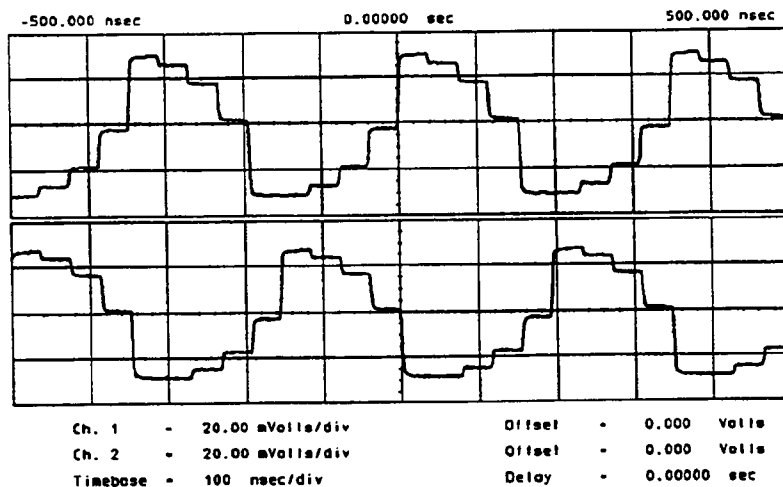

Figure 5-23. Example of a good serial test oscilloscope trace
20. Observe the I and Q signals on the oscilloscope. The signals should look close to Figure 5-23 shown below. A failure is indicated by extra or misplaced steps. Press the **EXT FILT** key again to return to internal filters and restore the modulated RF output.